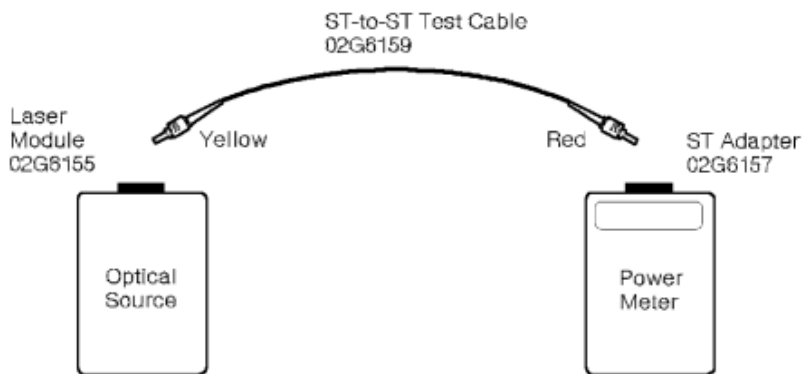

Figure 56. Obtaining **P0** for a single-mode link
5. Attach the yellow-coded connector of an ST-to-ST test cable to the optical source; then attach the red-coded connector to the power meter (see Figure 56 on page 49).